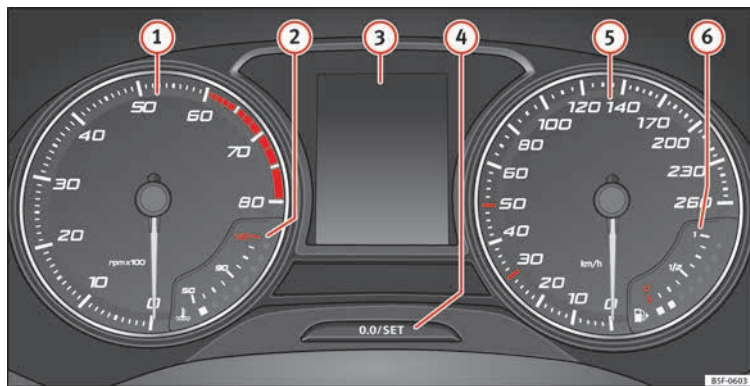

Fig. 124 Instrument panel, on dash panel
Details of the instruments » Fig. 124:
The rev counter indicates the number of engine revolutions per minute » **Fig. 124 ①**.
Never allow the rev counter needle ① » **Fig. 124** to go into the red zone on the scale for more than a very brief period, otherwise there is a risk of engine damage.
A variety of information can be viewed on the instrument panel display » **Fig. 124 ③**, depending on the vehicle equipment:
- Briefly press the button » **Fig. 124 ④** to reset the trip recorder to 0.
- To set the time, keep the button **» Fig. 124 4** pressed for more than 3 seconds to select the hour or minute display.
Hold the button **» Fig. 124 4** down for more than 15 seconds to display the identifying letters of the vehicle engine (MKB). To do this, the ignition must be switched on and the engine switched off.
The coolant temperature gauge **2** » **Fig. 124** only works when the ignition is switched on. In order to avoid engine damage, please read the following notes for the different temperature ranges.